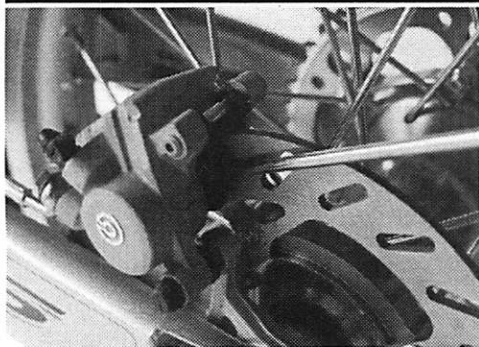

Figure 6.4
1. Gently place a screwdriver between each brake pad and the rotor. Then using a twisting motion, force each pad away from the rotor. This pushes the caliper pistons back into the caliper and makes room for the new, thicker pads. (Figure 6.4)